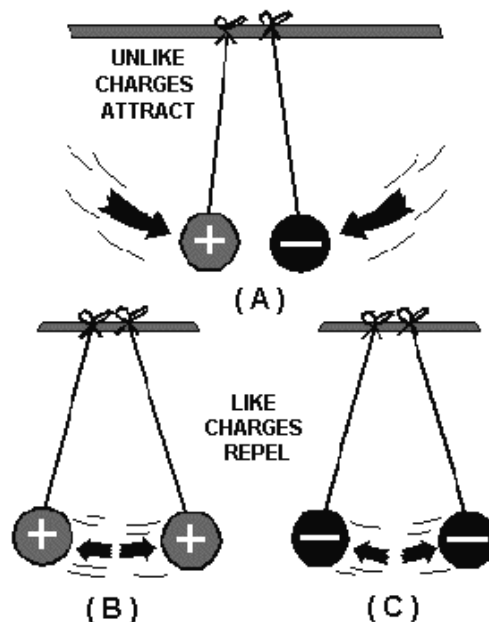

Figure 1-6.—Reaction between charged bodies.
The law of charged bodies may be demonstrated by a simple experiment. Two pith (paper pulp) balls are suspended near one another by threads, as shown in figure 1-6.
If a hard rubber rod is rubbed with fur to give it a negative charge and is then held against the right-hand ball in part (A), the rod will give off a negative charge to the ball. The right-hand ball will have a negative charge with respect to the left-hand ball. When released, the two balls will be drawn together, as shown in figure 1-6(A). They will touch and remain in contact until the left-hand ball gains a portion of the negative charge of the right-hand ball, at which time they will swing apart as shown in figure 1-6(C). If a positive or a negative charge is placed on both balls (fig. 1-6(B)), the balls will repel each other.